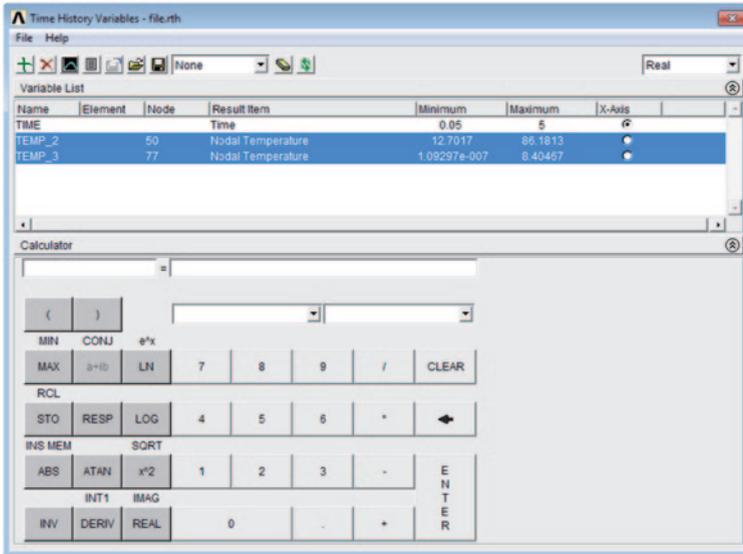

Fig. 5.35 Time history variables dialog box
- Time History Variables dialog box appears (Fig. 5.35).